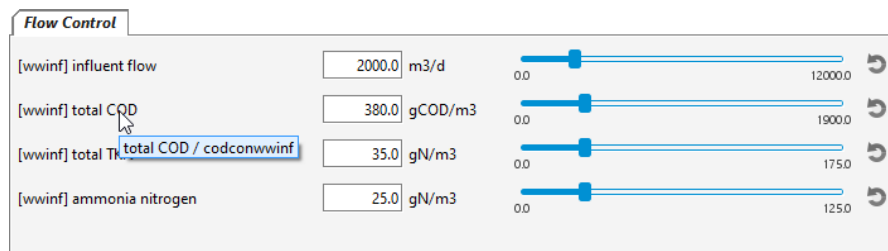

Figure 6-8 – Viewing the Cryptic Name via Tooltip
9. **Verify that the cryptic names** in the data file are the same as the variables for the input controllers. The simplest way to do this is to look at the tooltip that pops up when you hover the mouse cursor over the controller’s label as shown in **Figure 6-8**.